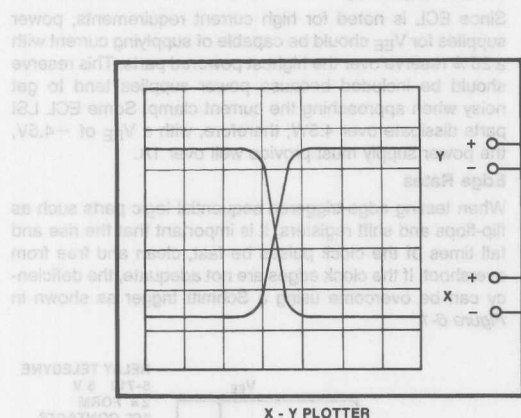
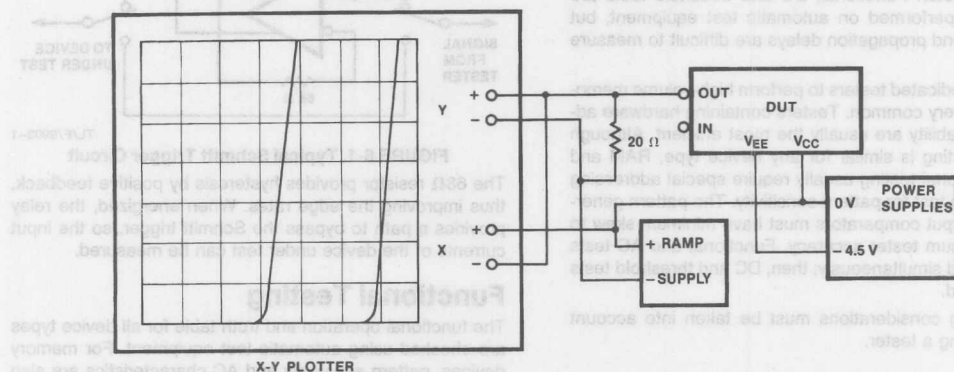

FIGURE 6-2.  $V_{IN}/V_{OUT}$  Transfer Characteristics
FIGURE 6-3.  $V_{OUT}/I_{OUT}$  Characteristics
**$V_{IH}/V_{OUT}$  Plot**—The input ramp supply is 0V to -2V varied by a multi-turn potentiometer. The input voltage ( $V_{IN}$ ) versus output voltage ( $V_{OUT}$ ) is plotted on an X-Y recorder using the test setup shown in Figure 6-2.
**$V_{OUT}/I_{OUT}$  Plot**—The output voltage ( $V_{OUT}$ ) versus output current ( $I_{OUT}$ ) can be plotted using the test setup shown in Figure 6-3.
Testing includes verifying functionally checking the device under test and measuring AC performance. These tasks are particularly difficult for ECL devices in light of the broad range of product RAMS, PROMs, gate arrays, and logic controllers. Correlation test is extremely important. Recognizing the differences between the different test methods is important. The user's concern is to ensure that the test is performed in an operating environment that is representative of the device's operating environment. The test setup shown in Figure 6-2 is a typical test setup for ECL devices. The test setup shown in Figure 6-3 is a typical test setup for ECL devices. The test setup shown in Figure 6-2 is a typical test setup for ECL devices. The test setup shown in Figure 6-3 is a typical test setup for ECL devices.